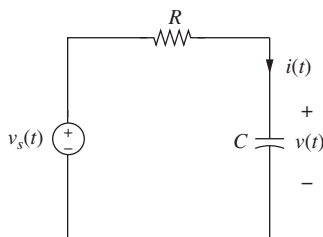

Figure P10.6 RC circuit for problem P10-6.
- 10-6.** A constant voltage $v_s(t) = 10$ V is applied to the RC circuit shown in Fig. P10.6. The voltage $v(t)$ across the capacitor satisfies the first-order differential equation
circuit ($R = 10 \text{ k}\Omega$ and $C = 10 \mu\text{F}$) shown in Fig. P10.6. The voltage $v(t)$ across the capacitor satisfies the first-order differential equation